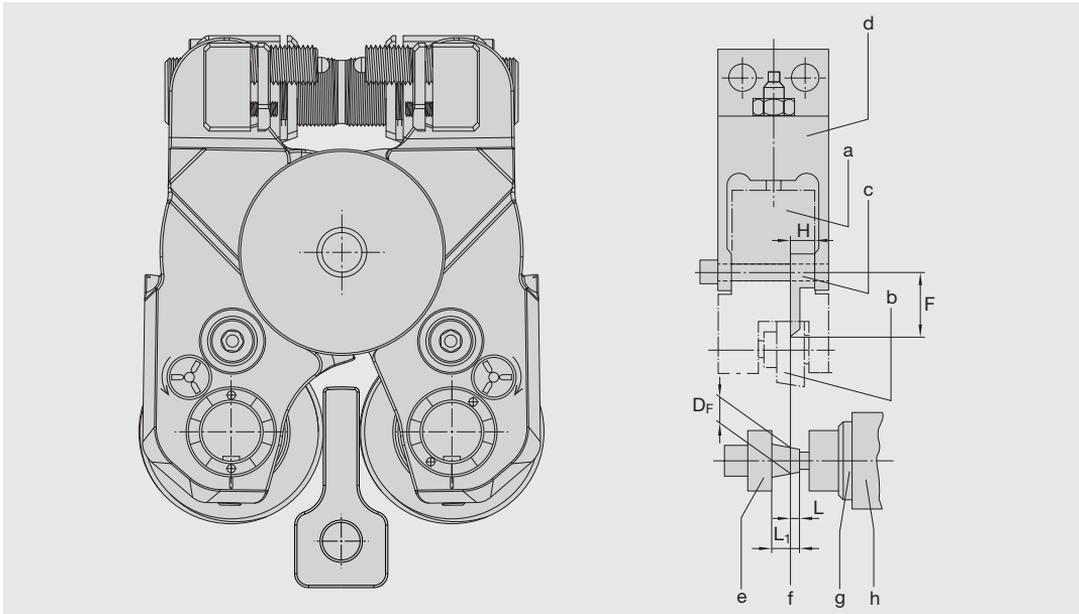

Figure 16: Using the setting gauge for conical threads
2. Make sure that the setting gauge touches the workpiece on the reference plane of the conical thread. (see Figure 16)